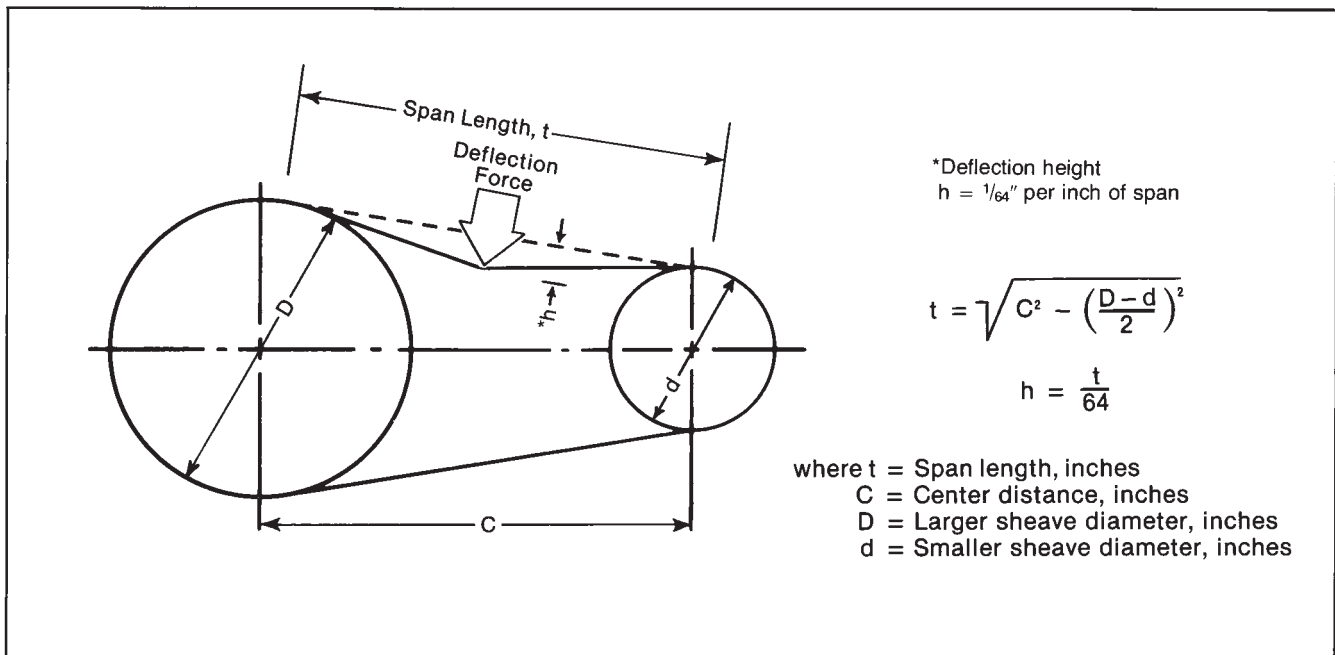

Figure 2
**Step 1:** Install belts per Step 1 of General Method. Measure span length (t) in inches as shown in figure 2, or calculate using formula.
**Step 2:** From figure 2 the deflection height (h) is always  $\frac{1}{64}$ " per inch of span length (t). For example, a 32" span length would require a deflection of  $\frac{32}{64}$ " or  $\frac{1}{2}$ ".
**Step 4:** Using a spring scale, apply a perpendicular force to any ONE of the belts at the mid point of the span as shown in figure 2. Compare this deflection force with the values found in Step 3.